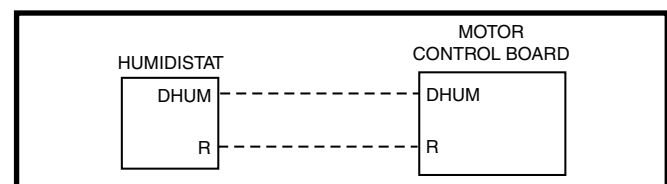

Figure 6. DHUM Wiring Configuration
2. If using a separate humidistat, connect the **DHUM** & **R** terminals on the humidistat to the **DHUM** & **R** terminals on the motor control board of the air handler. In this option, the **DHUM** output of the humidistat must be set to be normally open and closed when there is a call for humidification. See Figure 6.